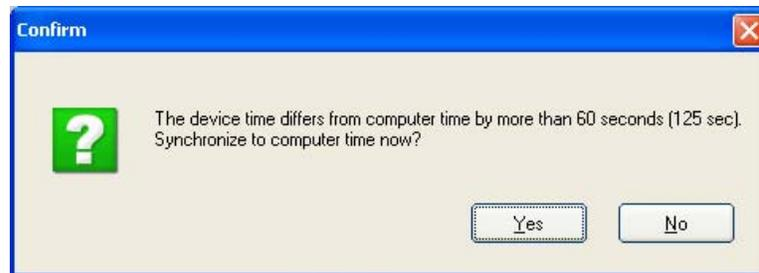

Figure 4.3—Prompt for authorizing time and date synchronization
3. If the internal time and date programmed into the instrument differs from the time and date displayed on the computer by more than 60 seconds, the software will prompt the user to synchronize the instrument time/date to match the computer time/date (Figure 4.3, page 41). This ensures that the instrument displays correct time, regardless of time zone differences.